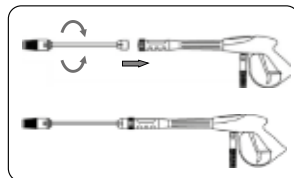

FIGURE 8.7
5. Connect the spray nozzle to the prior set (Figure 8.7)